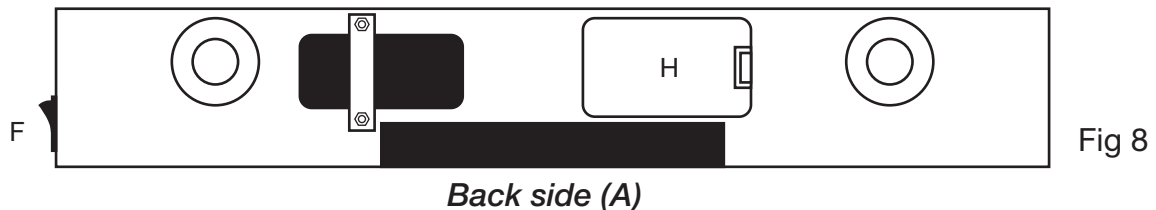

Fig 8
3. Locate Battery Pack Compartment (H) on back of Light Fixture (A) and open (Fig 8).